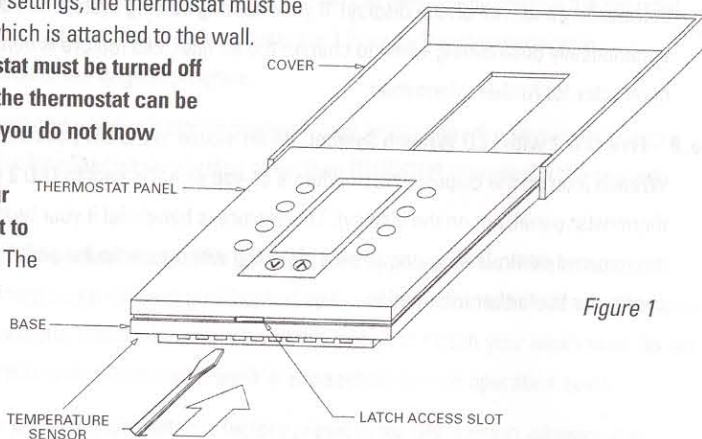

Figure 1
- c) Carefully insert a medium-sized flathead screwdriver into the latch access slot (see Figure 1).